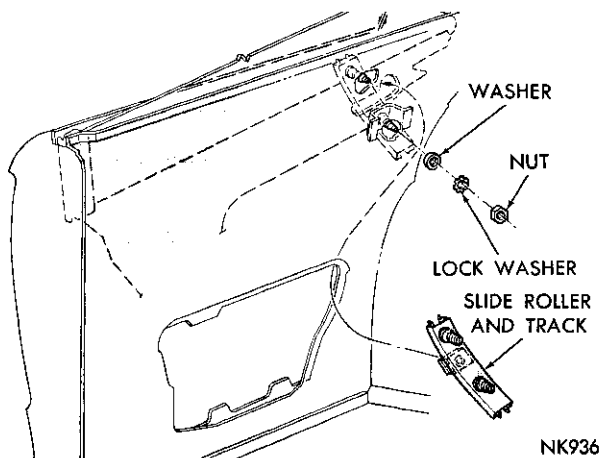

Fig. 101—Quarter Window Rear Track (Chrysler—Hard Top)
(1) Remove the regulator handle, trim panel and watershield.
(2) Remove the nuts and washers attaching the rear track assembly to the belt line reinforcement (Fig. 101).
(3) Remove the lower sleeve nut from the hole in the support on the inside panel, the top sleeve nut of the track from the belt reinforcement and the roller from the slot in the glass lower frame.
(4) Remove the track assembly from the door through the large access opening.